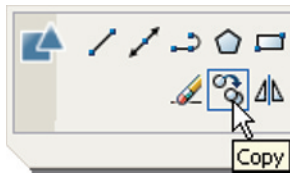

Fig. 5.4 The **Copy** tool icon from the **2D Draw** control panel
2. Call the **Copy** tool – either *left-click* on its tool icon in the **Modify** toolbar, or *pick Copy* from the **Modify** tools in the **2D Draw** control panel (Fig. 5.4), or *enter cp* or *copy* at the command line.